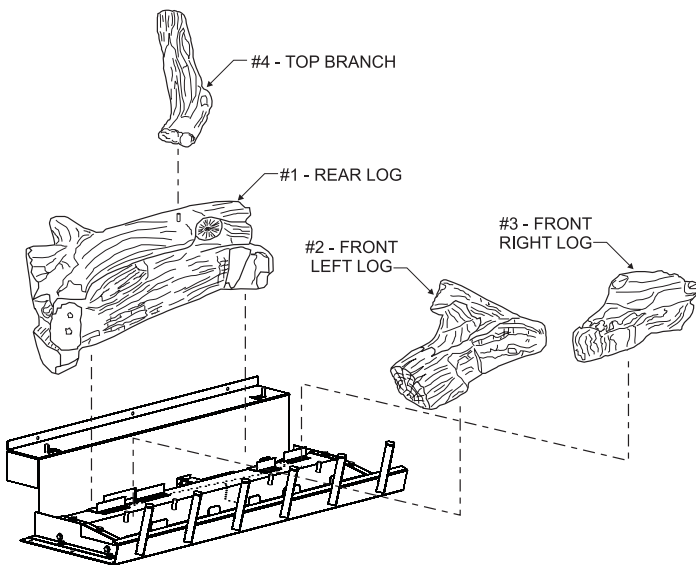
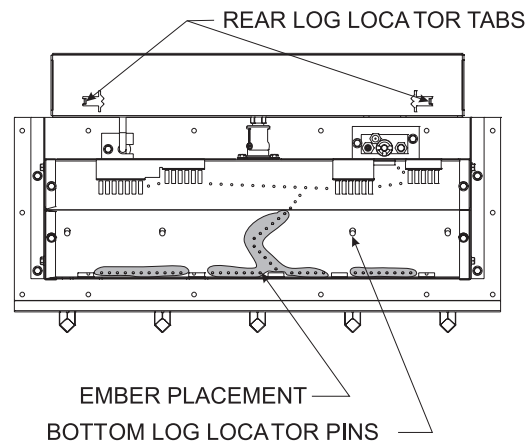
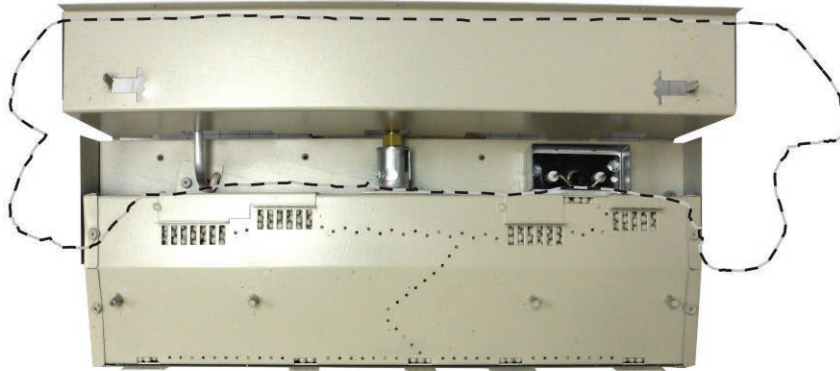

Figure 69
Figure 70
Figure 71
The positioning of logs is critical to safe and clean operation of this fireplace. Sooting and other problems may result if the logs are not properly and firmly positioned in the firebox. Please refer to **Figure 69**, **Figure 70**, and **Figure 71** and corresponding **WARNING**, when completing the following log placement steps.
2. After all logs are properly positioned, place small “dime” size pieces of Rockwool lightly across the front round “blueflame” ports. Place the ember material (Rockwool pieces) side by side. Do not stack more than one layer of embers across the burner ports. **See Figure 69.**